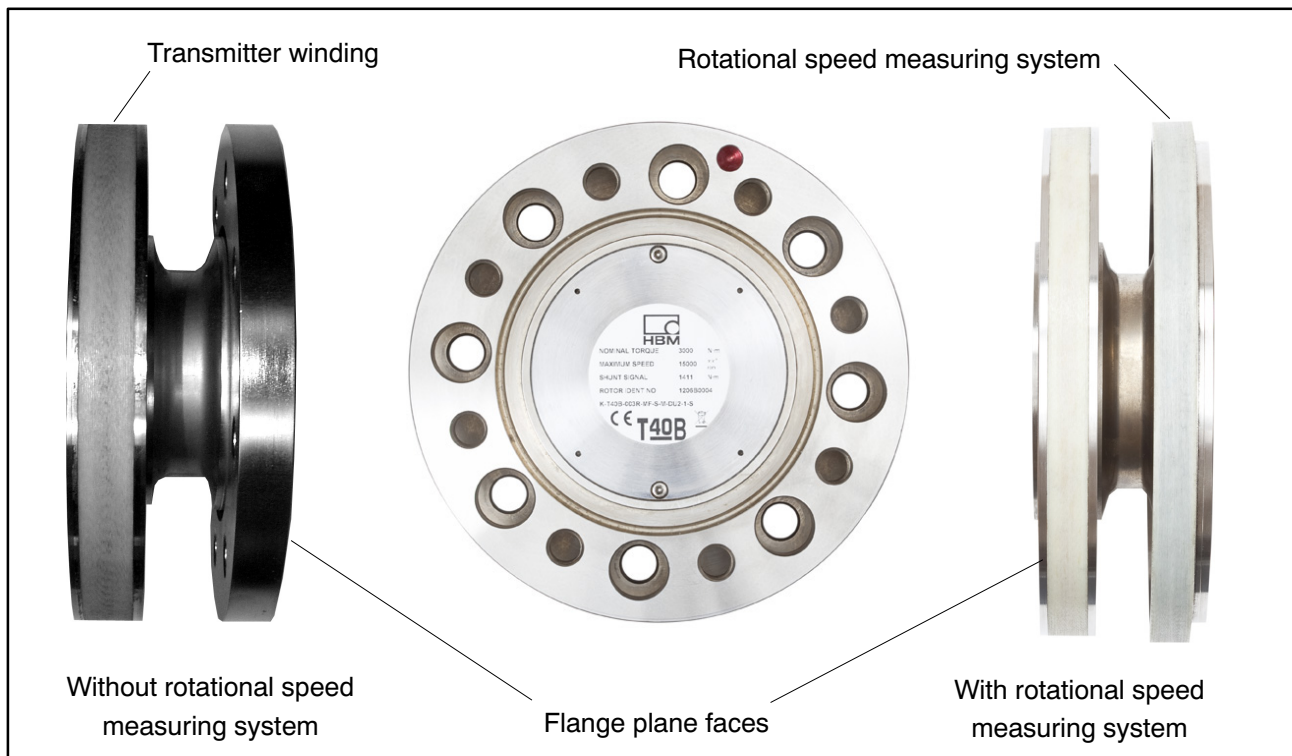

Fig 4.1: Bolted rotor connection
2. For the bolted rotor connection (see Fig 4.1), use six or eight DIN EN ISO 4762 hexagon socket screws of the property class stated in Table 4.1, in a suitable length (dependent on the connection geometry, see Table 4.1 on page 18).